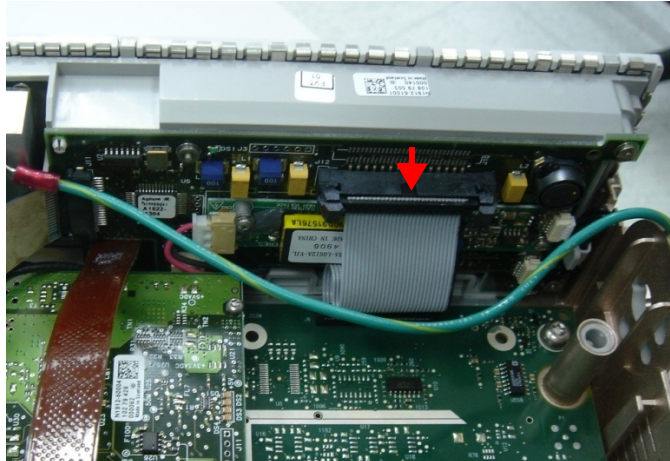

Figure 5-9
- Disconnect the front panel cable (Figure 5-9): Depress both sides of the connector holding the ribbon cable to eject it.